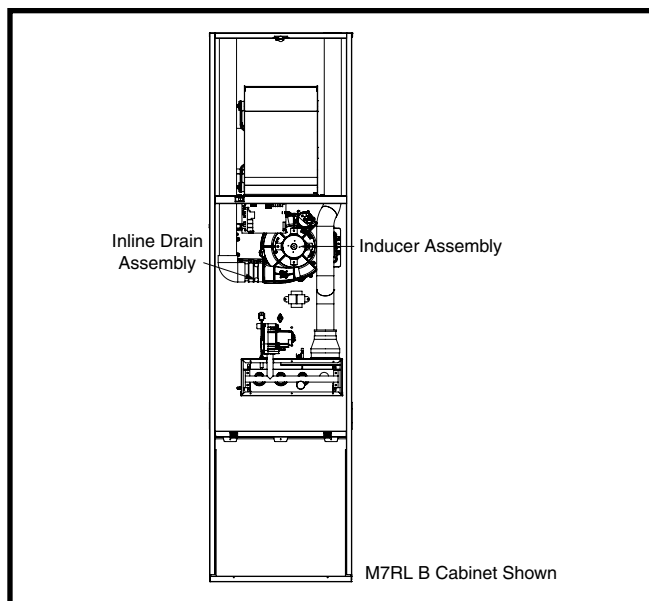

Figure 1.
3. Loosen the right hose clamp on the in-line drain assembly connecting the inducer to the vent pipe. See Figure 1.